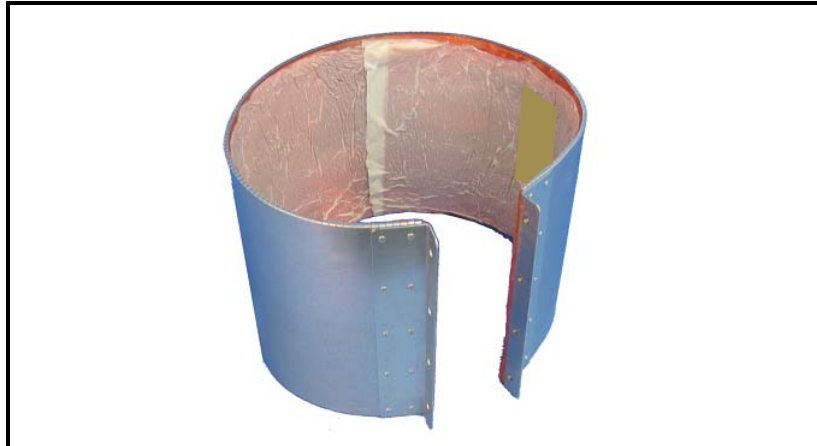

Figure 2-11: Pipe Damping Jacket (cutouts not shown)
2. Remove the backing paper from the inside of the pipe damping jacket (shown in Figure 2-11 below).